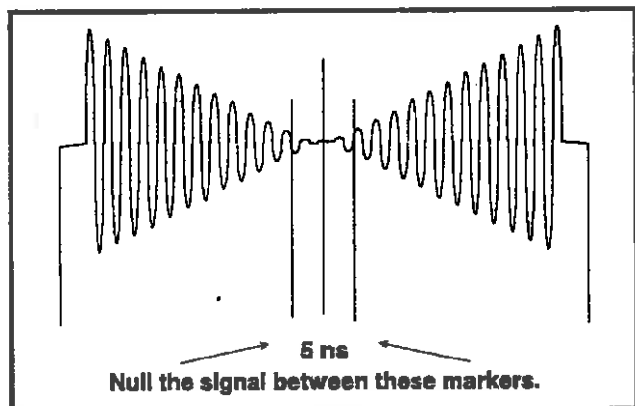

Fig. 5-8. Illustration of the bowtie.
- c. CHECK — that both bowties are nulled around the center timing markers as shown in Fig. 5-8.